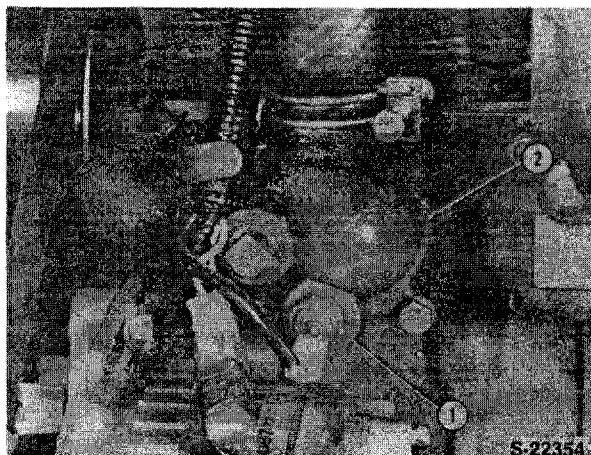

Figure 6
9. Remove the temperature sender switch, Figure 6.